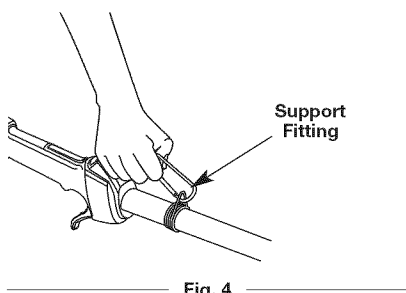

Fig. 4
3. Attach the shoulder clip to the unit. (Fig. 4)